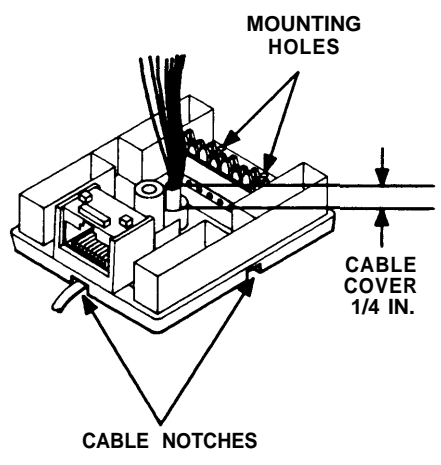

Figure 2
3. From beneath the customer-installable jack base, insert the wire ends of the cable through the hole in the center of the base until about a quarter of an inch of the cable cover extends above the hole (Figure 2).